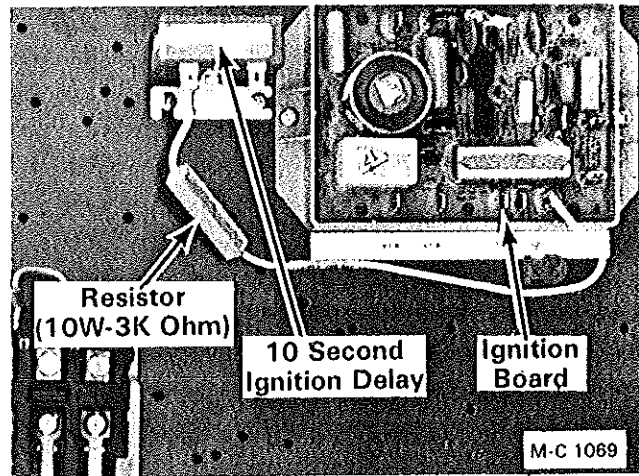

Figure 36 - 10 Second Ignition Delay
2. Look for loose, burned or broken wires, poor or corroded connections. Check the 10 second delay (Above S/N 47163), see Figure 36, and the ignition switch with a voltage tester.